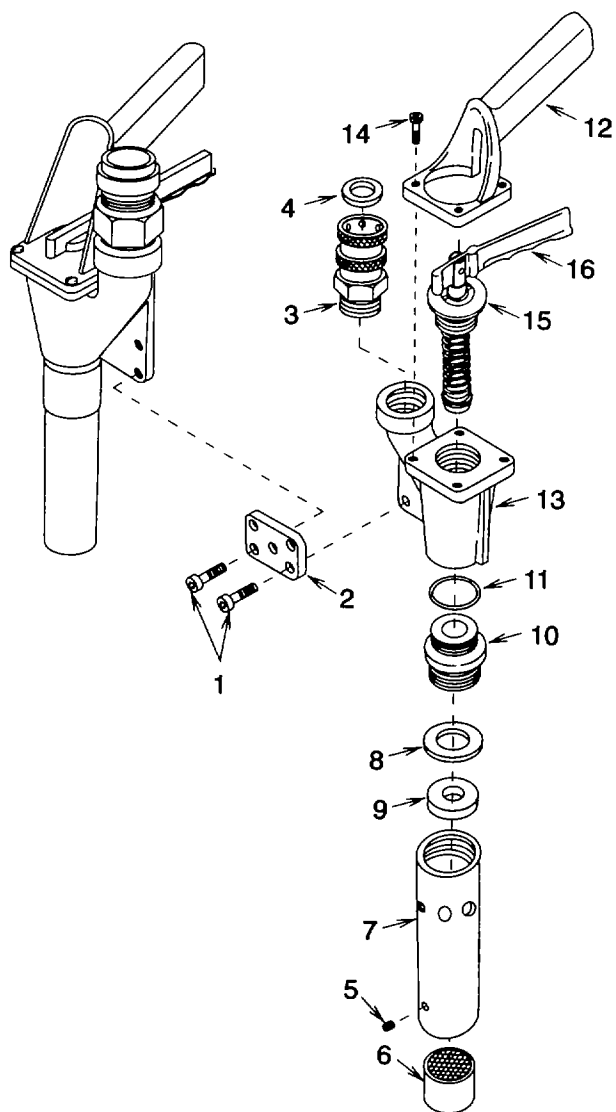
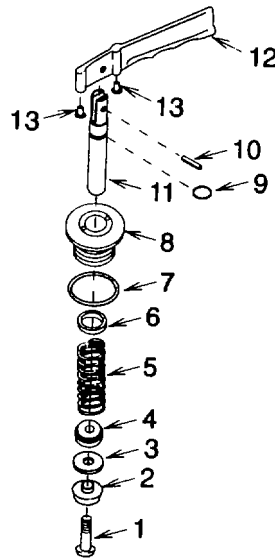

Figure 5-3. AFFF Nozzle Assembly
Figure 5-4. Valve Assembly
- (1) Remove four screws (1) (fig. 5-3) and tie bar (2).
- (2) Remove coupler (3) and o-ring (4).
- (3) Remove set screw (5) and screen assembly (6).
- (4) Using strap wrench, remove barrel (7), gasket (8), and orifice plate (9). Discard gasket.
- (5) Using spanner wrench, remove forward valve seat (10) and preformed packing (11). Discard preformed packing. 6) Scribe an alignment line between handle (12) and valve body (13).
- (7) Remove four screws (14) and valve handle (12).
- (8) Unscrew rear seal bushing (15) from valve body (13). Manipulate lever (16) as necessary.
- (9) Carefully remove screw (1) (fig. 5-4), valve seal washer (2), gasket (3), spring retainer (4), spring (5), rod wiper (6), preformed packing (7), and rear seal bushing (8). Discard gasket, rod wiper, and preformed packing. 10) Remove preformed packing (9) and spring pin (10). Disassemble valve stem (11), lever (12), and two drive buttons (13). Discard preformed packing and spring pin.
- (1) Install drive buttons (13) (fig. 5-4) into lever (12).
- (2) Secure valve stem (11) to lever (12) using new spring pin (10).
- (3) Install new preformed packing (9) onto valve stem (11).
- (4) Install new preformed packing (7) onto rear seal bushing (8).
- (5) Slide rear seal bushing (8), new rod wiper (6), spring (5), spring retainer (4), new gasket (3), and valve seal washer (2) onto valve stem (11). Secure using screw (1) and tighten to 24 in. lb (3 Nm).
- (6) Install rear seal bushing (15) (fig. 5-3) into valve body (13) and tighten.
- (7) Install valve handle (12) and align with valve body (13) matching scribe line made during disassembly. Install four screws (14).
- (8) Install new preformed packing (11) onto forward valve seat (10).
- (9) Install forward valve seat (10) onto valve body (13) and tighten.
- (10) Install orifice plate (9) and new gasket (8) into barrel (7).
- (11) Install barrel (7) onto forward valve seat (10) and tighten.
- (12) Install screen assembly (6) into barrel (7), with fine mesh side out, and secure using set screw (5).
- (13) Wrap antisieze tape around coupler (3) threads and install onto valve body (13). Tighten securely. Install o-ring (4) into coupler.
- (14) Install tie bar (2) and four screws (1).
- (15) Install nozzles per paragraph 4-14.